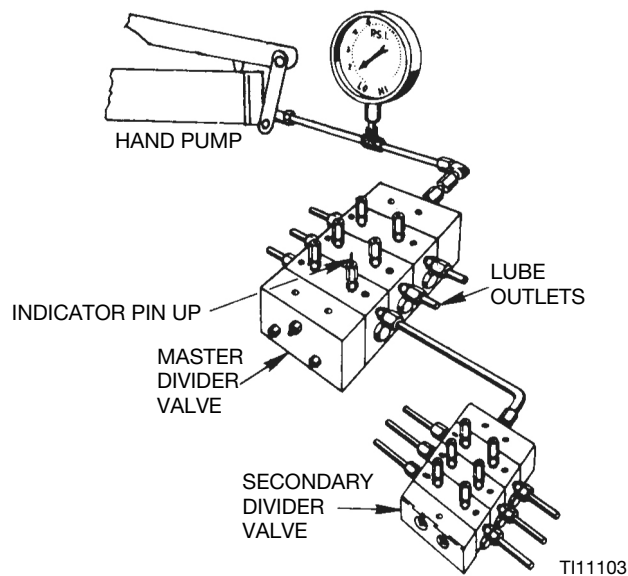

FIG. 12
With the manual pump connected to the master divider valve as outlined in step 3 of **Locate and Repair Blockages**, on page 14, raise the pressure to 2000 psi (14 MPa, 138 bar). The indicator ports signal the location of the blockage. An indicator in the up position means that pressure is in that outgoing line and signals the blockage is in the area being served from this outlet (FIG. 12).
**NOTE:** If all indicator port plugs are removed, the master will not cycle. Blockage is in this divider valve (FIG. 12).